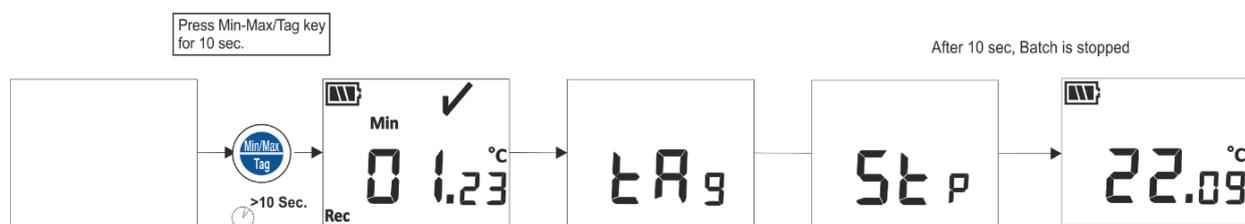

Figure 11 Manual Stop of Running Batch
- 4) User can manually Stop the running batch if required, by pressing “**Min/Max**” key for about 10 seconds as shown in figure 11. Here a Manual Tag event will be logged prior to batch stop message